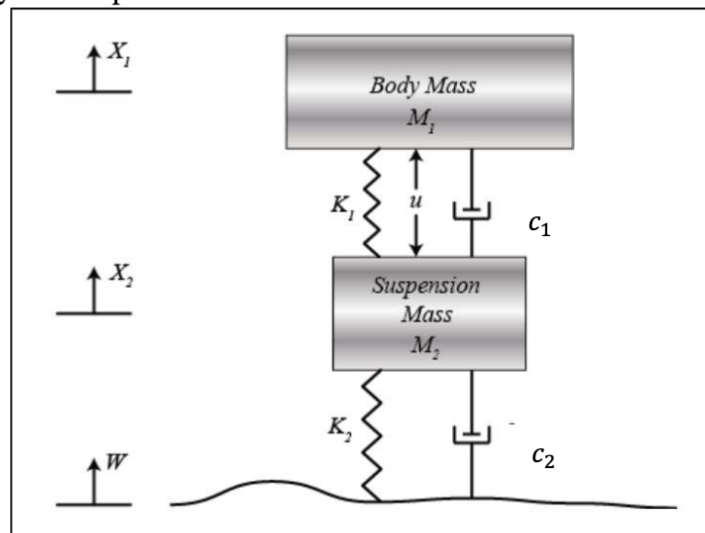

Figure 1.1 Model of Bus Suspension System (1/4 bus)
2.1 Deriving Equations of the System based on Figure 1.1